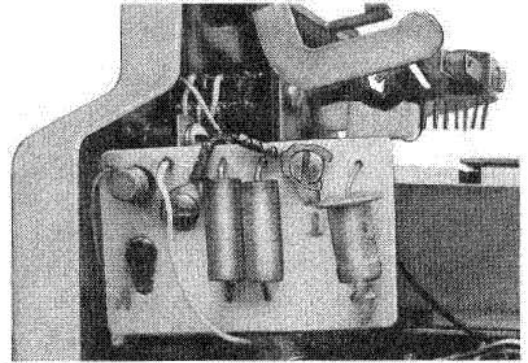

Fig. 11—Polarity Guard Position
**3.11 Polarity Guard:** When required with the 2851-type telephone set, install the adhesive backed 819041971 (P-90D197) guard assembly to the left-hand bracket in the position shown in Fig. 11.